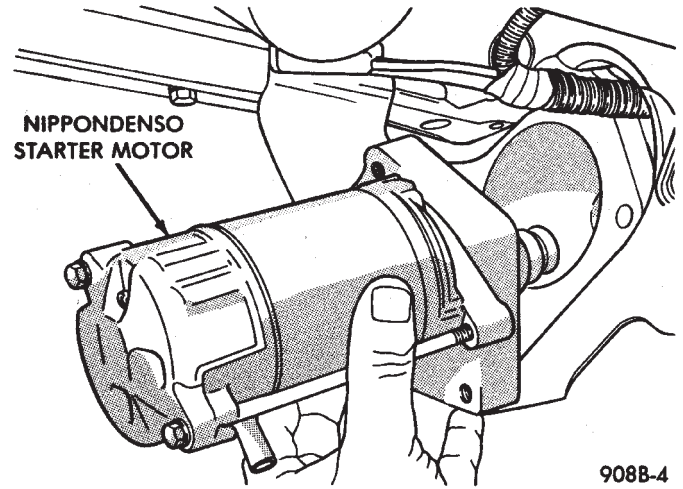
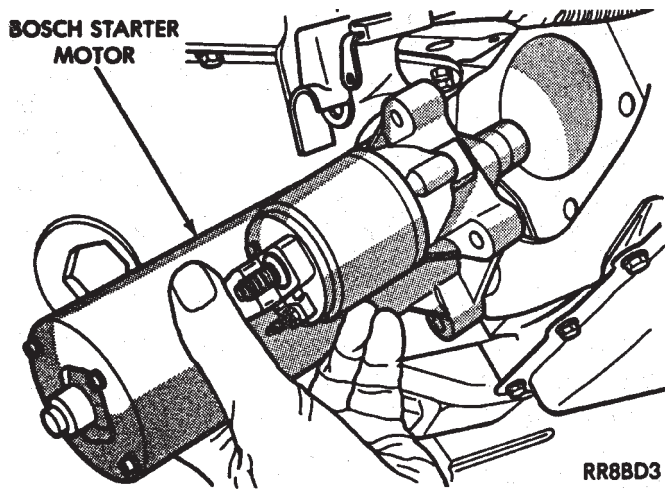

Fig. 9 Remove/Install Starter—Nippondenso—Typical
Fig. 8 Remove/Install Starter—Bosch—Typical
- (4) Remove starter from vehicle (Bosch, Fig. 8) (Nippondenso, Fig. 9).
- (5) For installation, reverse above procedures. Clean corrosion/dirt from the cable and wire terminals before installing wiring to the solenoid.